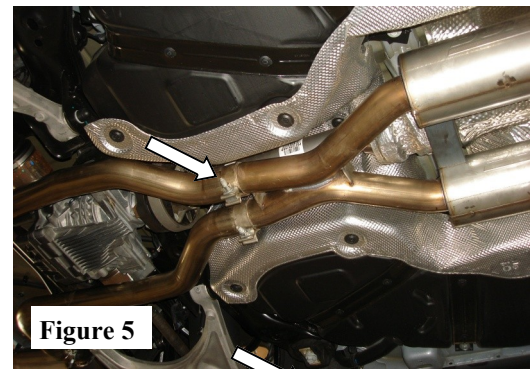

Figure 5
2. Place a clamp over the expanded end of the Right-Hand Intermediate Pipe and set it into position. (See Fig. 5). Do Not tighten the clamp.